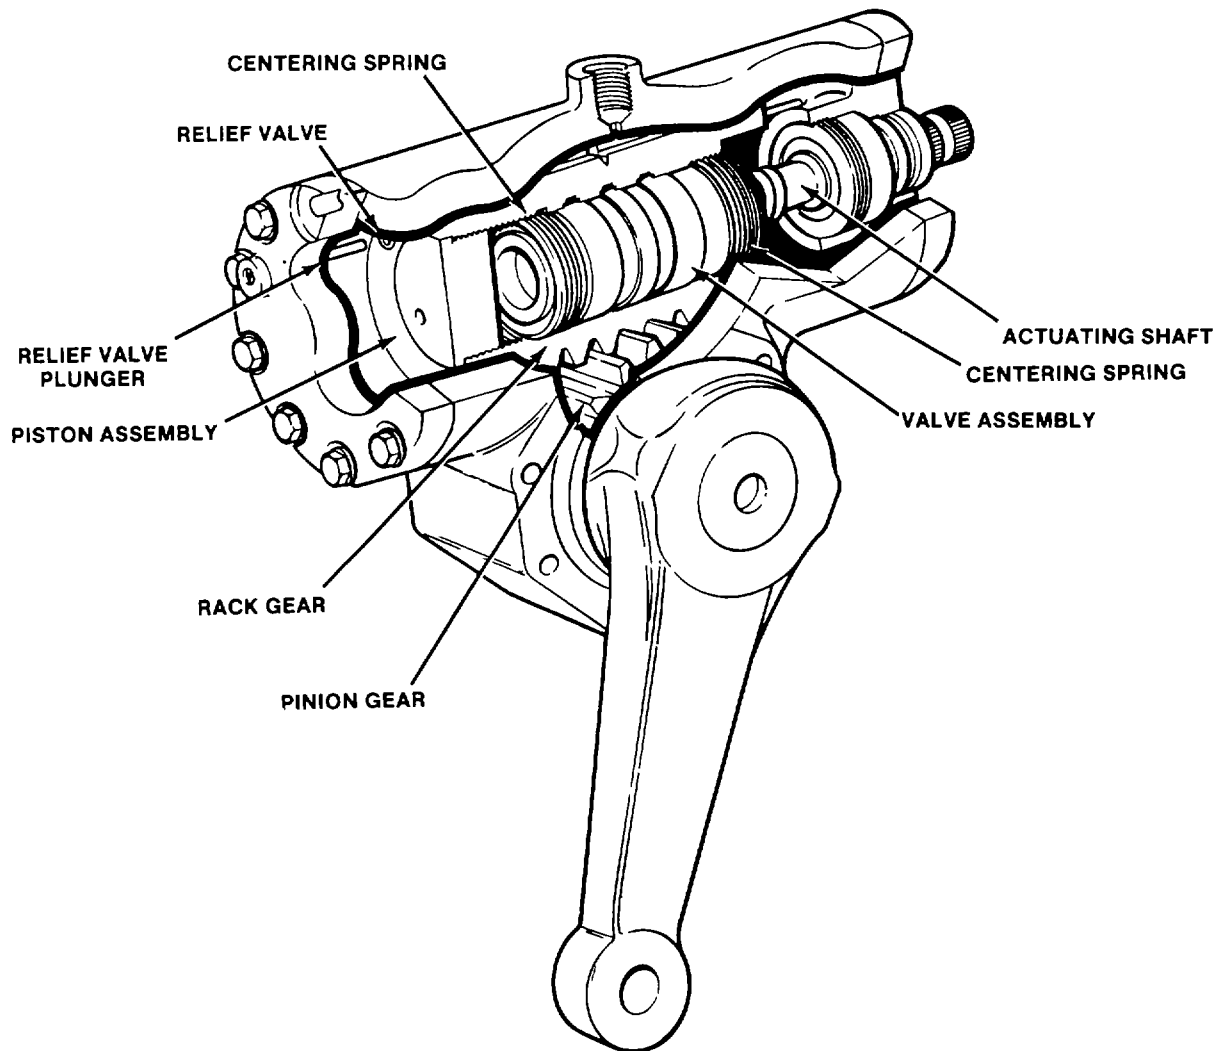

Figure 1-29. Power Steering Gear
(1) Inside the steering gear, fluid is distributed to both ends of a piston assembly, (see fig. 1-29) and equal pressure is maintained while the steering is neutral. When the steering wheel is turned, the motion will push the valve assembly toward one end of the piston. This action will close off oil flow to that end and increase the flow to the other end. The hydraulic pressure from this flow will assist moving the piston and thereby turn the gear. If the piston is moved to its extreme limit, i e, the front wheels are turned to maximum angle, a plunger operated relief valve will open and relieve the hydraulic pressure. A relief valve is provided at each end of the piston.
(2) When steering action is stopped or returned to neutral, spring action from disc-type springs at both ends of the valve body will center the valve and equalize the oil pressure on both sides of the piston.